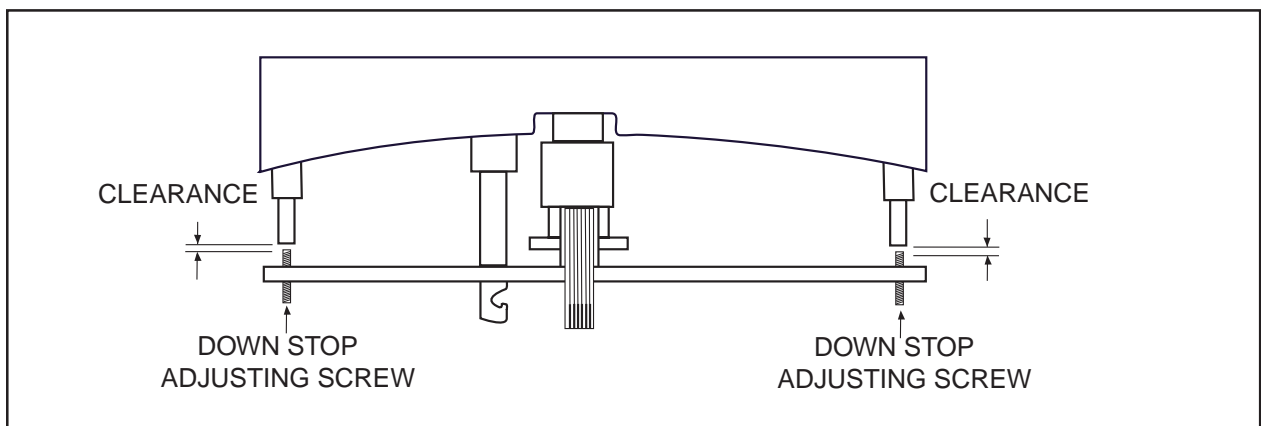

Figure 4-2. Transducer Front View - Down Stop Adjustment Screws
3. If the above conditions **are not met**, adjust the screws on the base plate using the data in Table 4-4. See Figure 4-2 for location of adjustment screws.